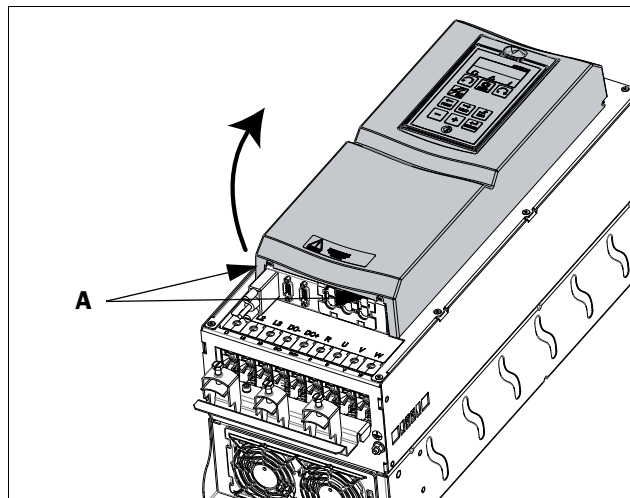

Fig. 29 Remove the front cover on frame size C2 - F2 and FA2 (principle drawing).
- Loosen the two screws A (see Fig. 29) at the bottom of the cover a couple of turns (you do not have to remove the screws).